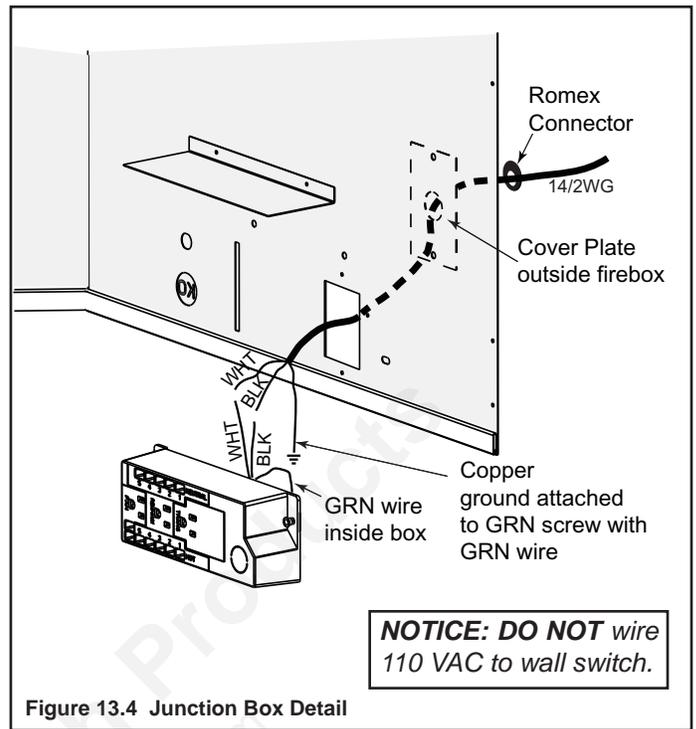

Figure 13.4 Junction Box Detail
- Remove the cover plate located on the outer shell - right side (see Figure 13.4).
- Remove the screw attaching the junction box/receptacle to the outer shell, rotate the junction box inward to disengage it from the outer shell (see Figure 13.4).
- Pull the electrical wires from outside the appliance through this opening into the valve compartment. See Figure 13.4.